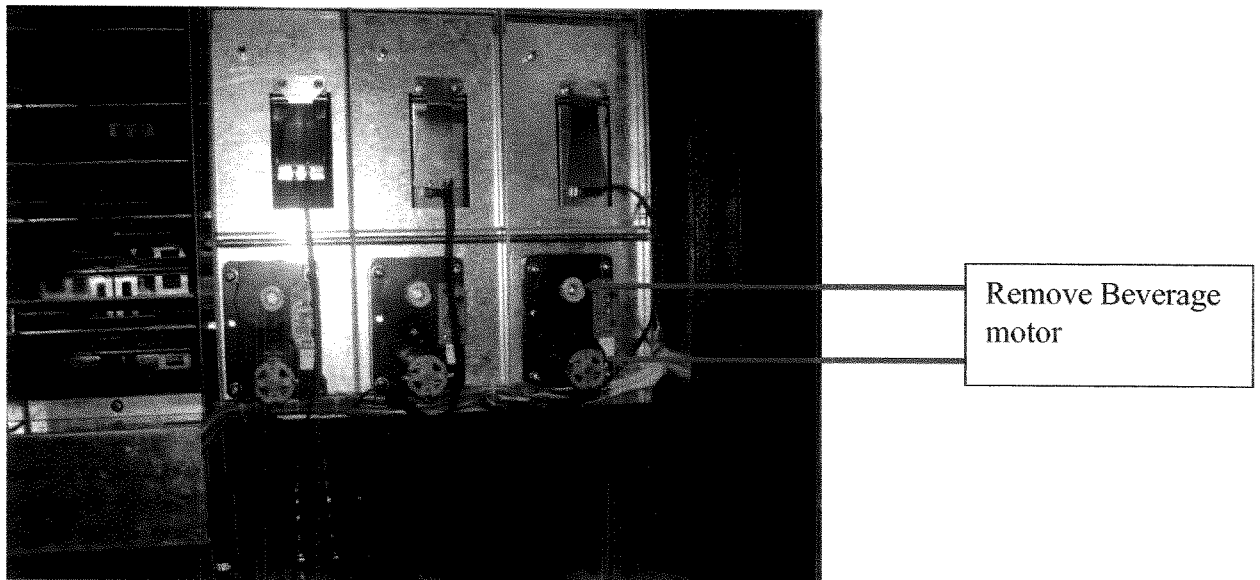

Figure 36 – Removing the beverage motor.
3. Remove 5 mounting screws (*reference figure 36*).
4. Remove harness connector (*reference figure 36*).